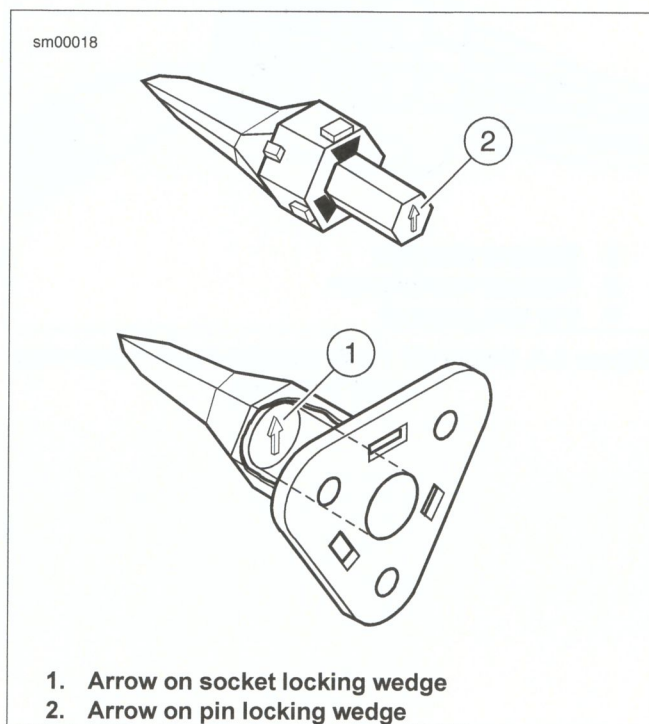

Figure A-6. Deutsch DT Sealed Connector: 3-Place Locking Wedges
- See Figure A-6. **Three-place connectors:** Align arrow (1) on conical secondary lock towards external latch.